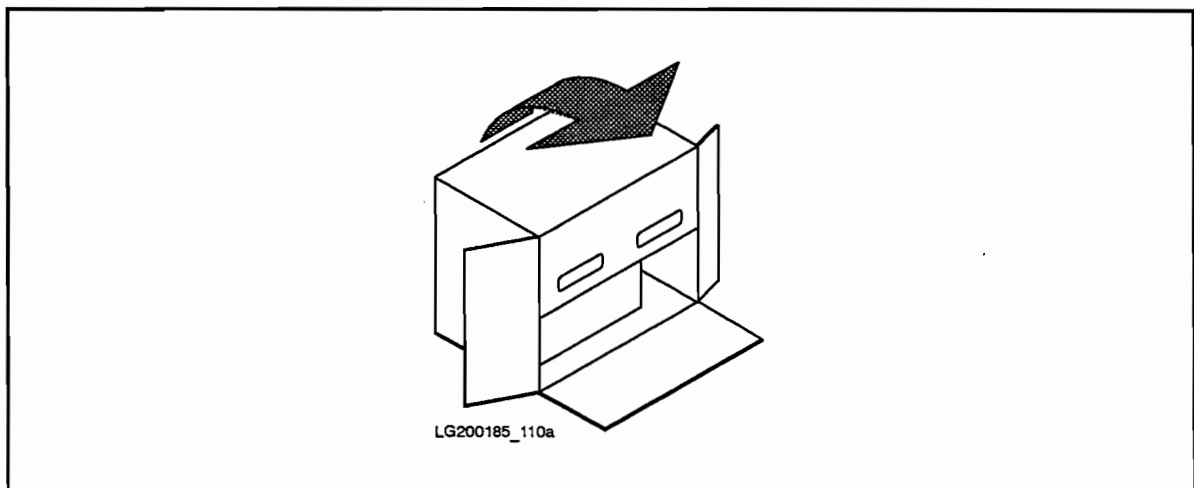

Figure 3-2. Positioning the Shipping Box
3. Position yourself so that you must reach across the box to grasp the handles. See Figure 3-2.
4. Grasp the handles and carefully pull the shipping box toward yourself until the shipping box rests on its side, with the handles on top. This positions the computer in an up right position resting on its feet. See Figure 3-2.